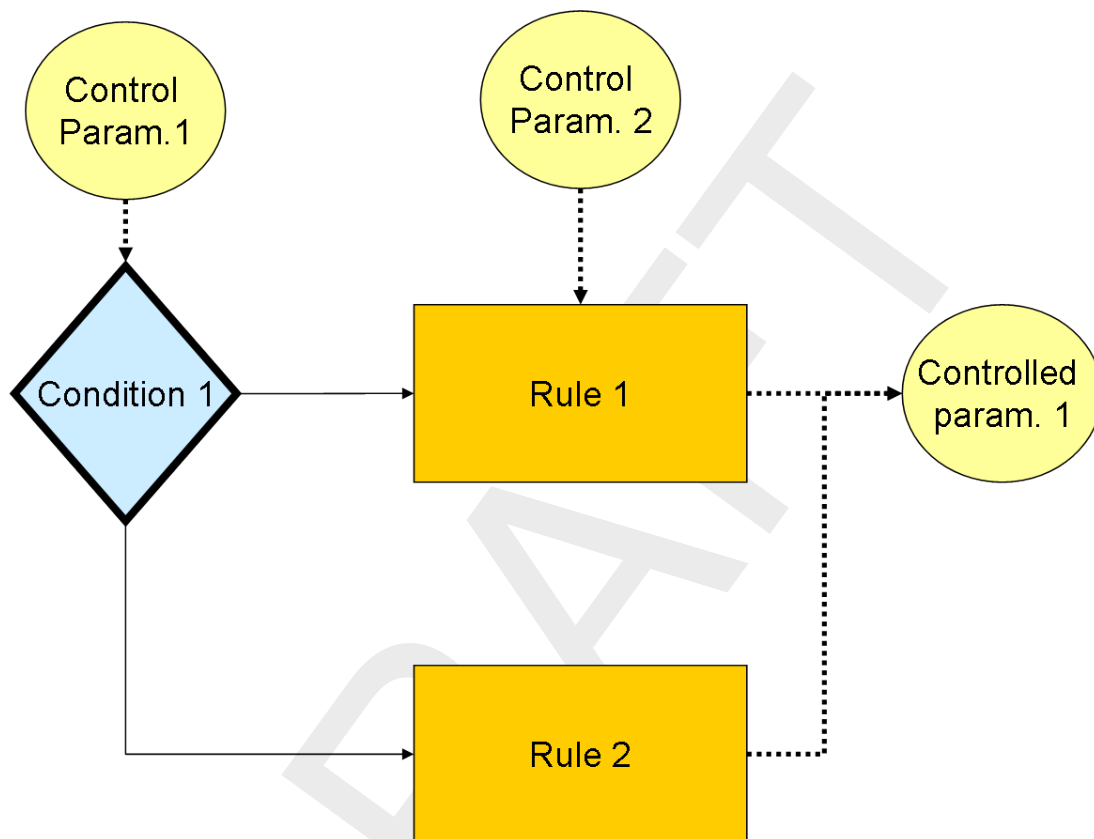

Figure 2.5: Components and basic concept of the flowchart
D-RTC is built around the concept of controlflows. Figure 2.5 shows the concept of a controlflow and its components. The controlflow in a flow chart always:
- ◇ has one starting point for each controlled parameter (depicted with a thick black line around the controlflow component, see Figure 2.5),
- ◇ shows the controlflow with solid arrows, and data input or output with dashed arrows, see Figure 2.5,